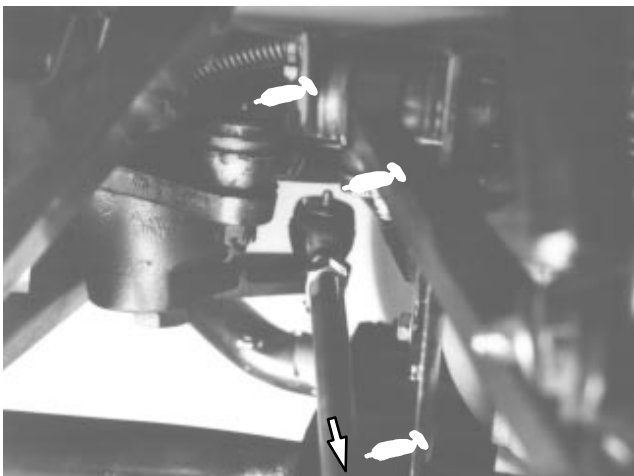
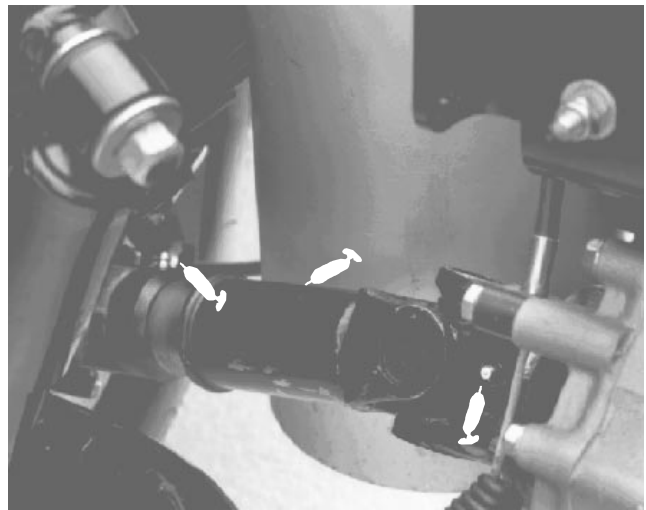

Figure 20
Figure 21
(Fig. 20–25)
The grease fitting locations and quantities are: Tie rod ends (4) (Fig. 20), Front ball joints (4) (Fig. 20), Rear drive shafts (18) (Fig. 21), Pedal Pivots (4) (Fig. 22); Steering shaft (1) (Fig. 23), Front pivot bushings (2) (Fig. 24) and Governor Lever (1) (Fig. 25).